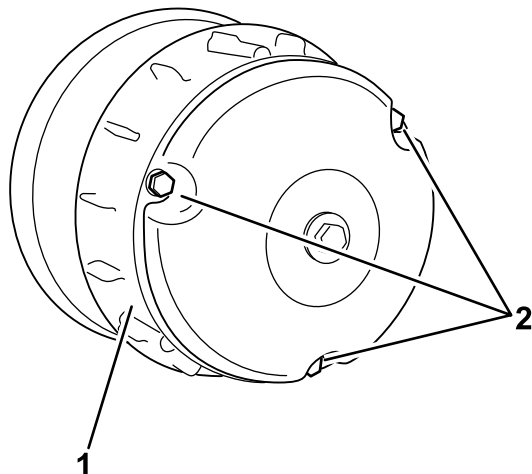

Figure 53
2. Remove the 3 bolts securing the cover to the clutch, and remove the cover (Figure 53).
4. Install the clutch cover and secure it with the 3 bolts (Figure 53) that you removed in 2.